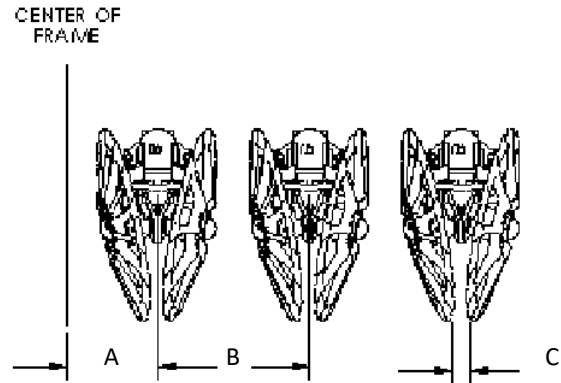

Figure 4-4: Lifter Strut Spacing
**4.2.1 Lifter Strut Spacing:** Verify that the spacing matches the spacing of the planted crop as shown in Figure 4-4.